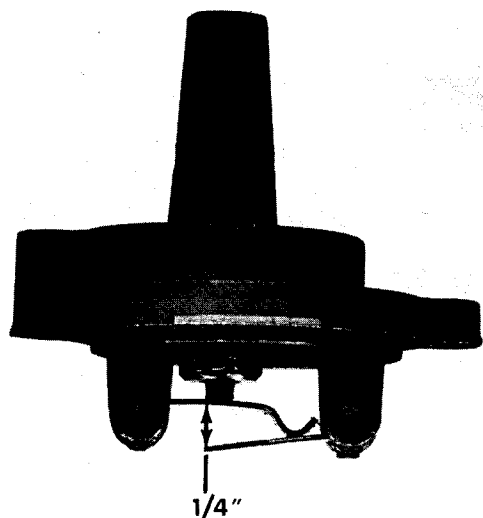

Figure 3. Clearance between Levers
7. Hold float bowl cover upright. (Figure 3) Distance between levers is $1/4$ ". Bend tab on secondary lever as required.